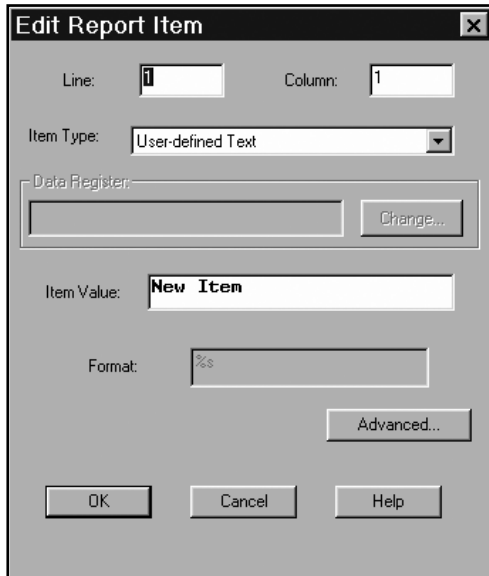

Figure 21
- Next, select Edit|Insert New Item... from the AccuMate menu bar. An "Edit Report Item" dialog box will appear, similar to that shown in Figure 21.